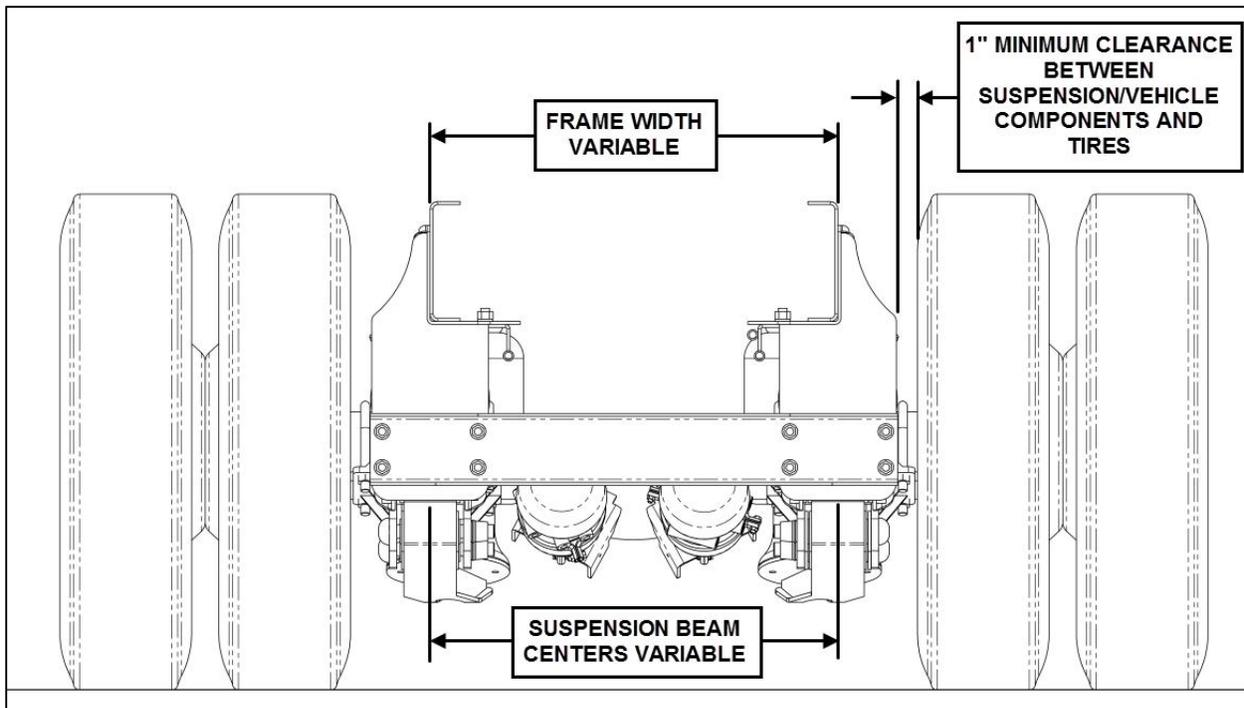

Figure 4
9. Verify required tire clearance at suspension and vehicle components (see **Figure 4**)